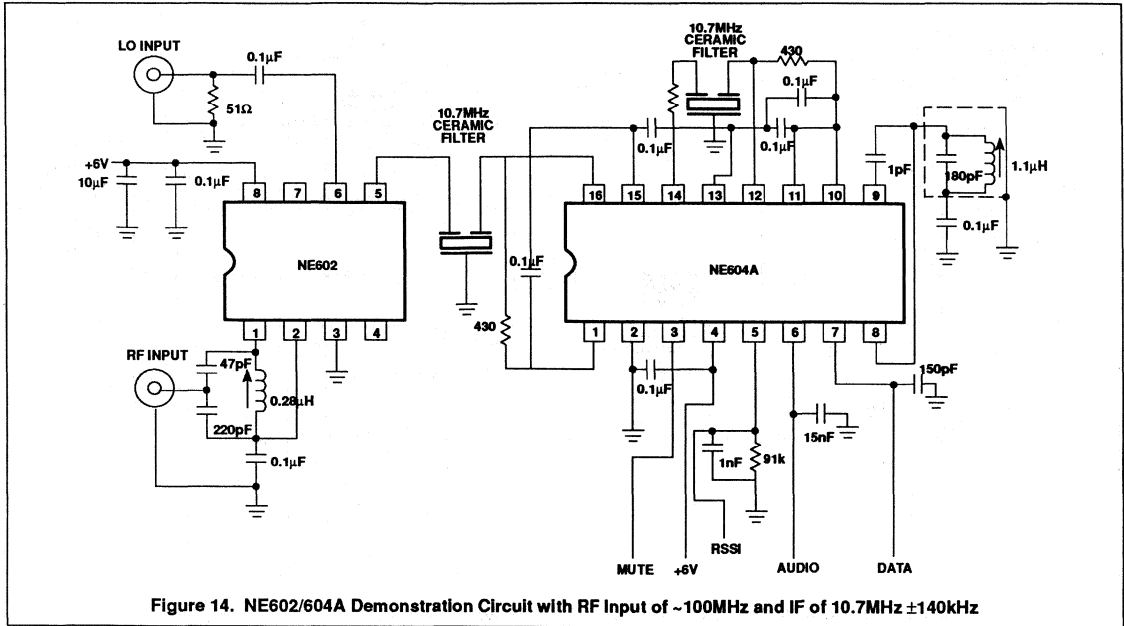
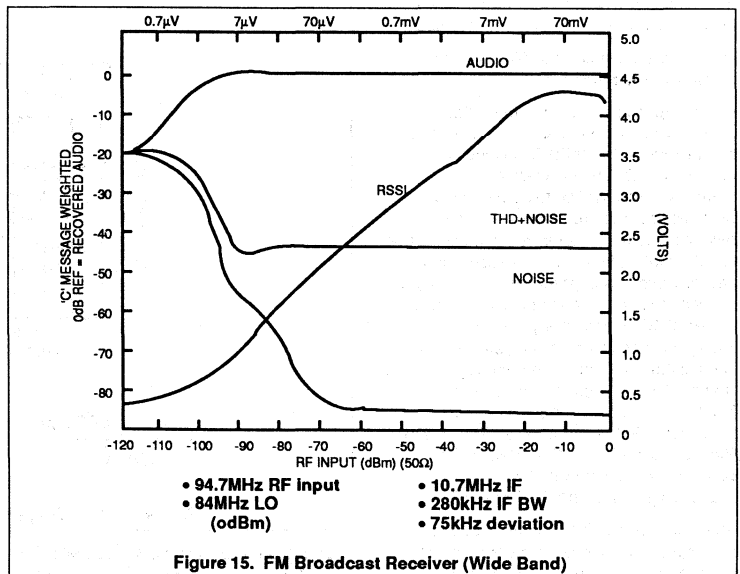

Figure 14. NE602/604A Demonstration Circuit with RF Input of ~100MHz and IF of 10.7MHz ±140kHz
Figure 15. FM Broadcast Receiver (Wide Band)
This example represents three possible applications: (1) low cost, sensitive FM broadcast receivers, (2) SCA (Subsidiary Communications Authorization) receivers and (3) data receivers. The circuit schematic is shown in Figure 14. While this example has the greatest diversity of application, it is also the simplest. Two 10.7MHz ceramic filters were used. The first was directly connected to the output of the NE602. The second was directly connected to the output of the first IF limiter. The secondary sides of both filters were terminated with 330 Ω as in the two previous examples. While the filter bandpass skew of this simple single conversion receiver might not be tolerable in some applications, to a first order the results are excellent. (Please note that sensitivity is measured at +20dB in this wideband example.) Performance is illustrated in Figure 15. +20dB SINAD was measured with 1.8 μ V input.